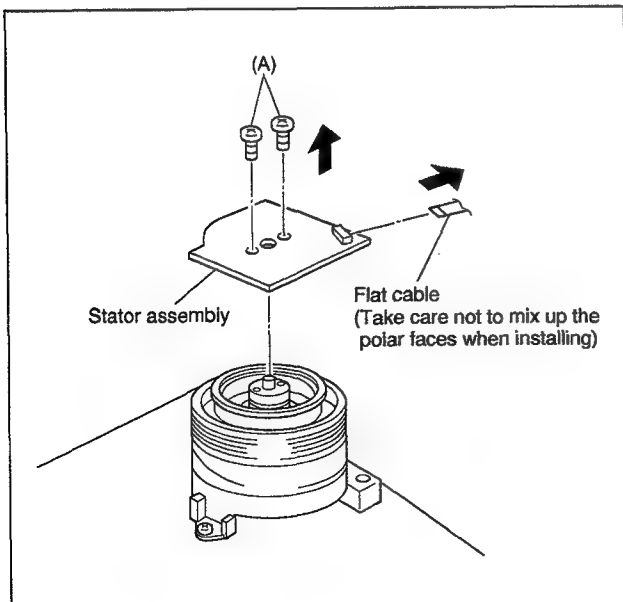

Fig. 2-2-36
- (1) Remove the stator assembly and rotor assembly. (See Fig. 2-2-36 and 2-2-37)
- (2) Loosen the screw of the collar assembly using a 1.5 mm hexagonal wrench and remove the collar assembly. Also remove the brush, spring and cap at one time.
- (3) Remove the upper drum assembly and remove the washer using tweezers.
- (5) After installation, gently turn the upper drum with your hand to make sure that it turns normally.
- (6) Install the rotor assembly and stator assembly according to Fig. 2-2-36 and 2-2-38.
- (7) When installation is complete, clean the upper drum assembly and lower the drum assembly and carry out the following adjustments.